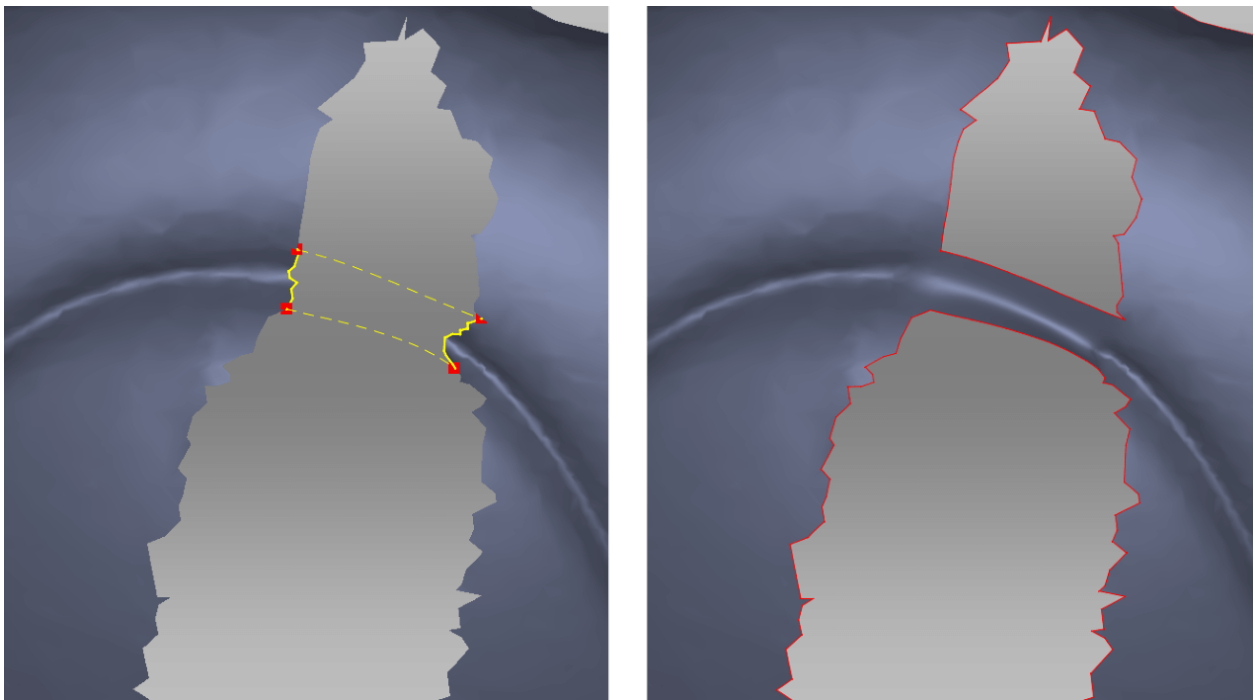

Figure 132: Specifying fragments. Correct fragments can resolve original geometry.
2. Specify two opposite fragments¹ between which a bridge will go (Figure 132). There are two ways to do this:
Preserve the original geometry (Figure 132)	Clear the Smooth edges first checkbox